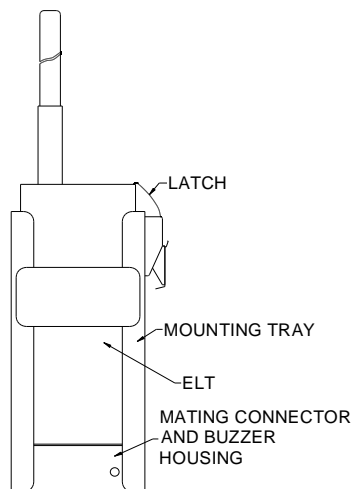

FIGURE 1: EBC-406HM
The EBC-406HM is an Emergency Locator Transmitter (ELT) designed for helicopter installation. It meets the requirements of TSO-C126 in the Automatic Portable (AP) category (See Figure 1). It is designed to be mounted in the cabin of the aircraft, within reach of the pilot or co-pilot. As with all EBC ELTs, the increased survivability needs of cabin mounting have been met. The electronics and the activation system are completely encapsulated, and extra protection has been provided for the crystal. Our encapsulation method provides added protection against shock and moisture. The ELT transmits on 406.028 MHz, the civil 121.5 MHz, and the military 243.0 MHz emergency frequencies.